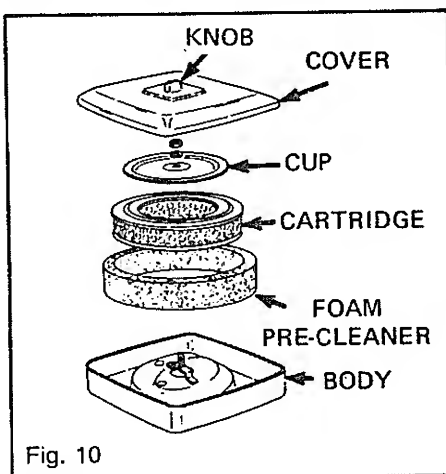

Fig. 10
1. Remove knob and cover, Figures 10 & 10A.